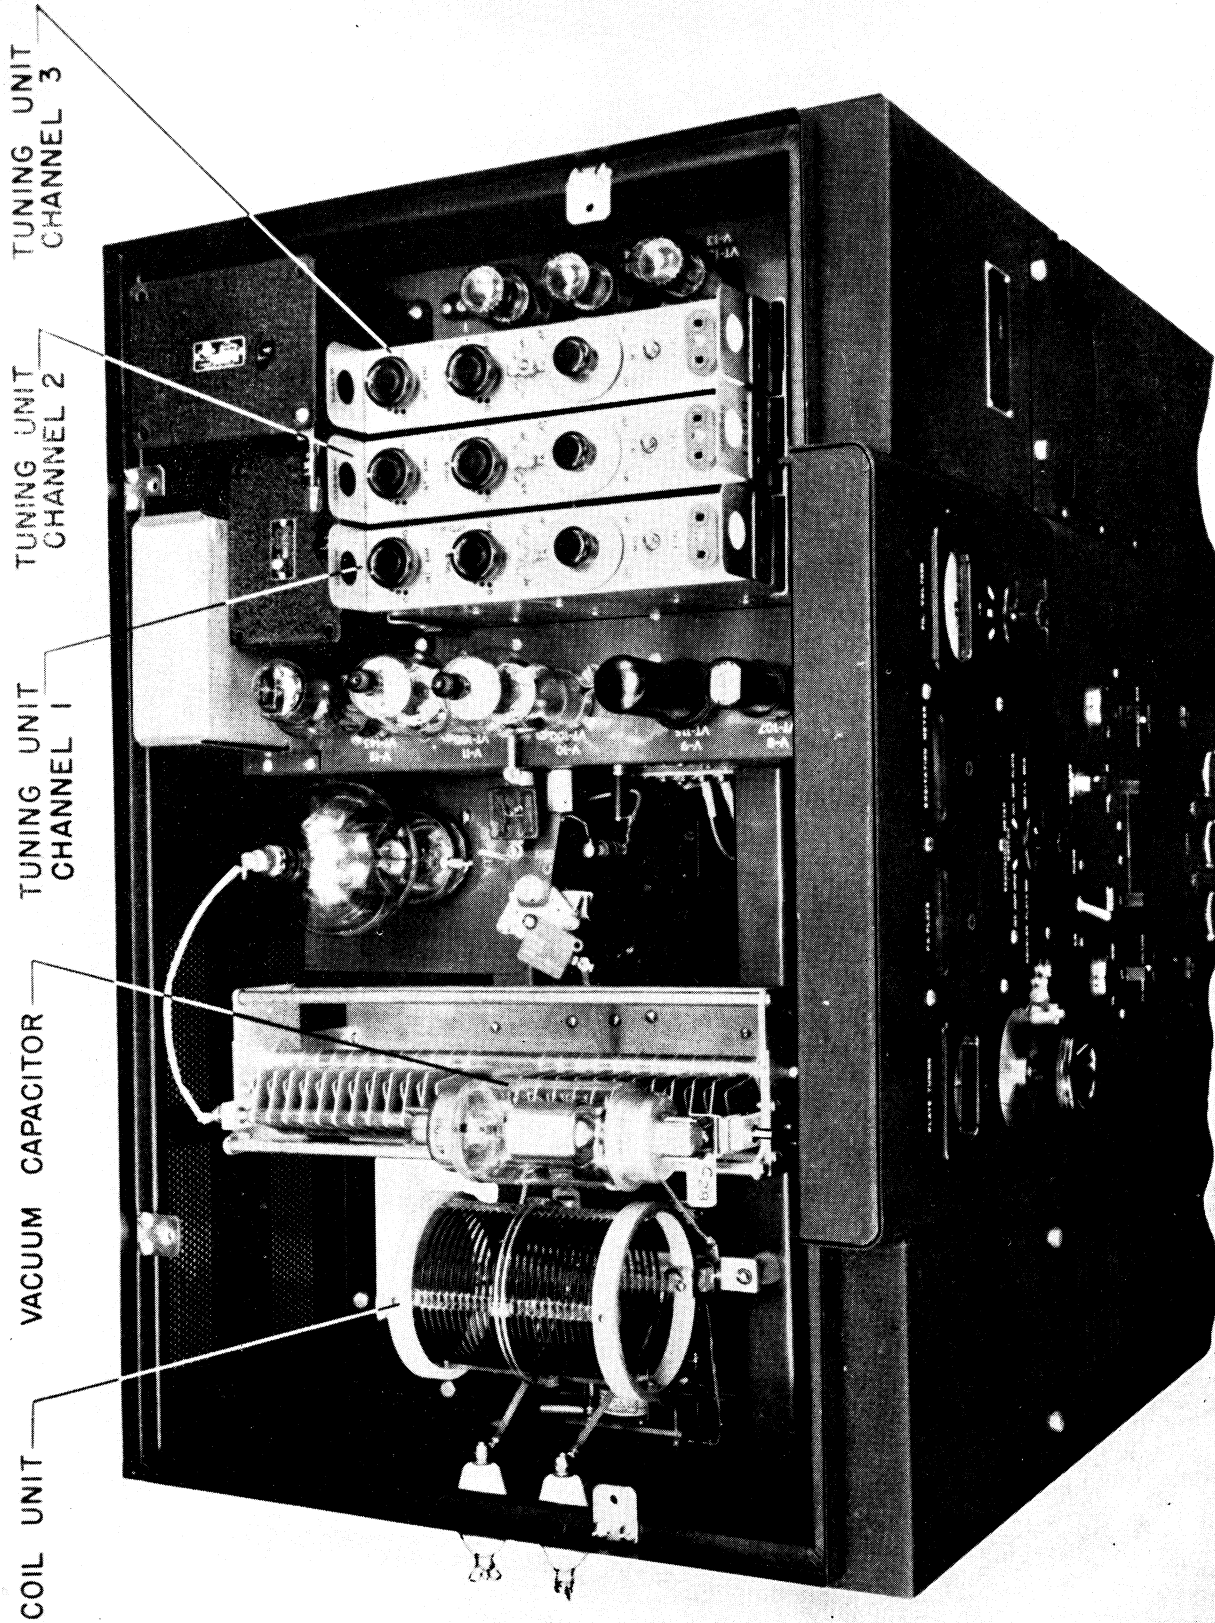

Figure 14—Radio Transmitter BC-610-E, top view, cover removed
(1) See that the PLATE POWER switch of the transmitter is at OFF, and is left there. (See Caution, Paragraph 15 f (2).) Also make sure transmitter control switch on Junction Box JB-70-A is at TRANS. OFF.
(2) Set the FILAMENT POWER switch of the transmitter at ON. The green pilot lamp and the plate tuning dial should now light. The FIL. VOLTAGE meter should register. (Allow 1 minute for the filament to come up to temperature.)
(3) Adjust the FILAMENT VOLTAGE control of transmitter until the FIL. VOLTAGE meter indicates 5 to 5.3 volts.
(4) Select one tuning unit covering the desired frequency range from Chest CH-88-A (wall).
(5) Lift open the right hand door in the cover of the transmitter and firmly insert tuning unit in one of the three available channels, marked 1, 2, 3. (Locate the tuning unit so that the switch marked M.O.-XTAL faces the front panel of the transmitter. (See Figure 14.)
(6) Set BAND SWITCH on front panel of transmitter so its position number corresponds with the channel number where tuning unit was placed.
(7) Select from Chest CH-88-A (wall) one coil unit covering the desired frequency.
(8) Remove Capacitor CA-423 from Chest CH-88-A (wall) if operation in the 2.0 to 2.5 megacycle frequency range is desired.
(9) Lift open left hand door in cover of transmitter and insert coil unit (and Capacitor CA-423 if required).
(10) Set COUPLING control of Antenna Tuning Unit BC-939-A to 0 (zero).
(11) Set the CW-PHONE switch of transmitter at CW.